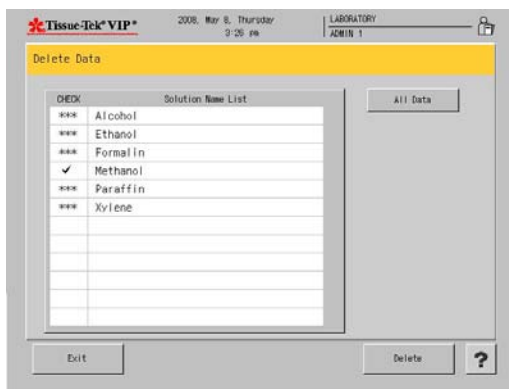

Figure 3-PPP
- A Confirmation dialog box displays (Figure 3-PPP).